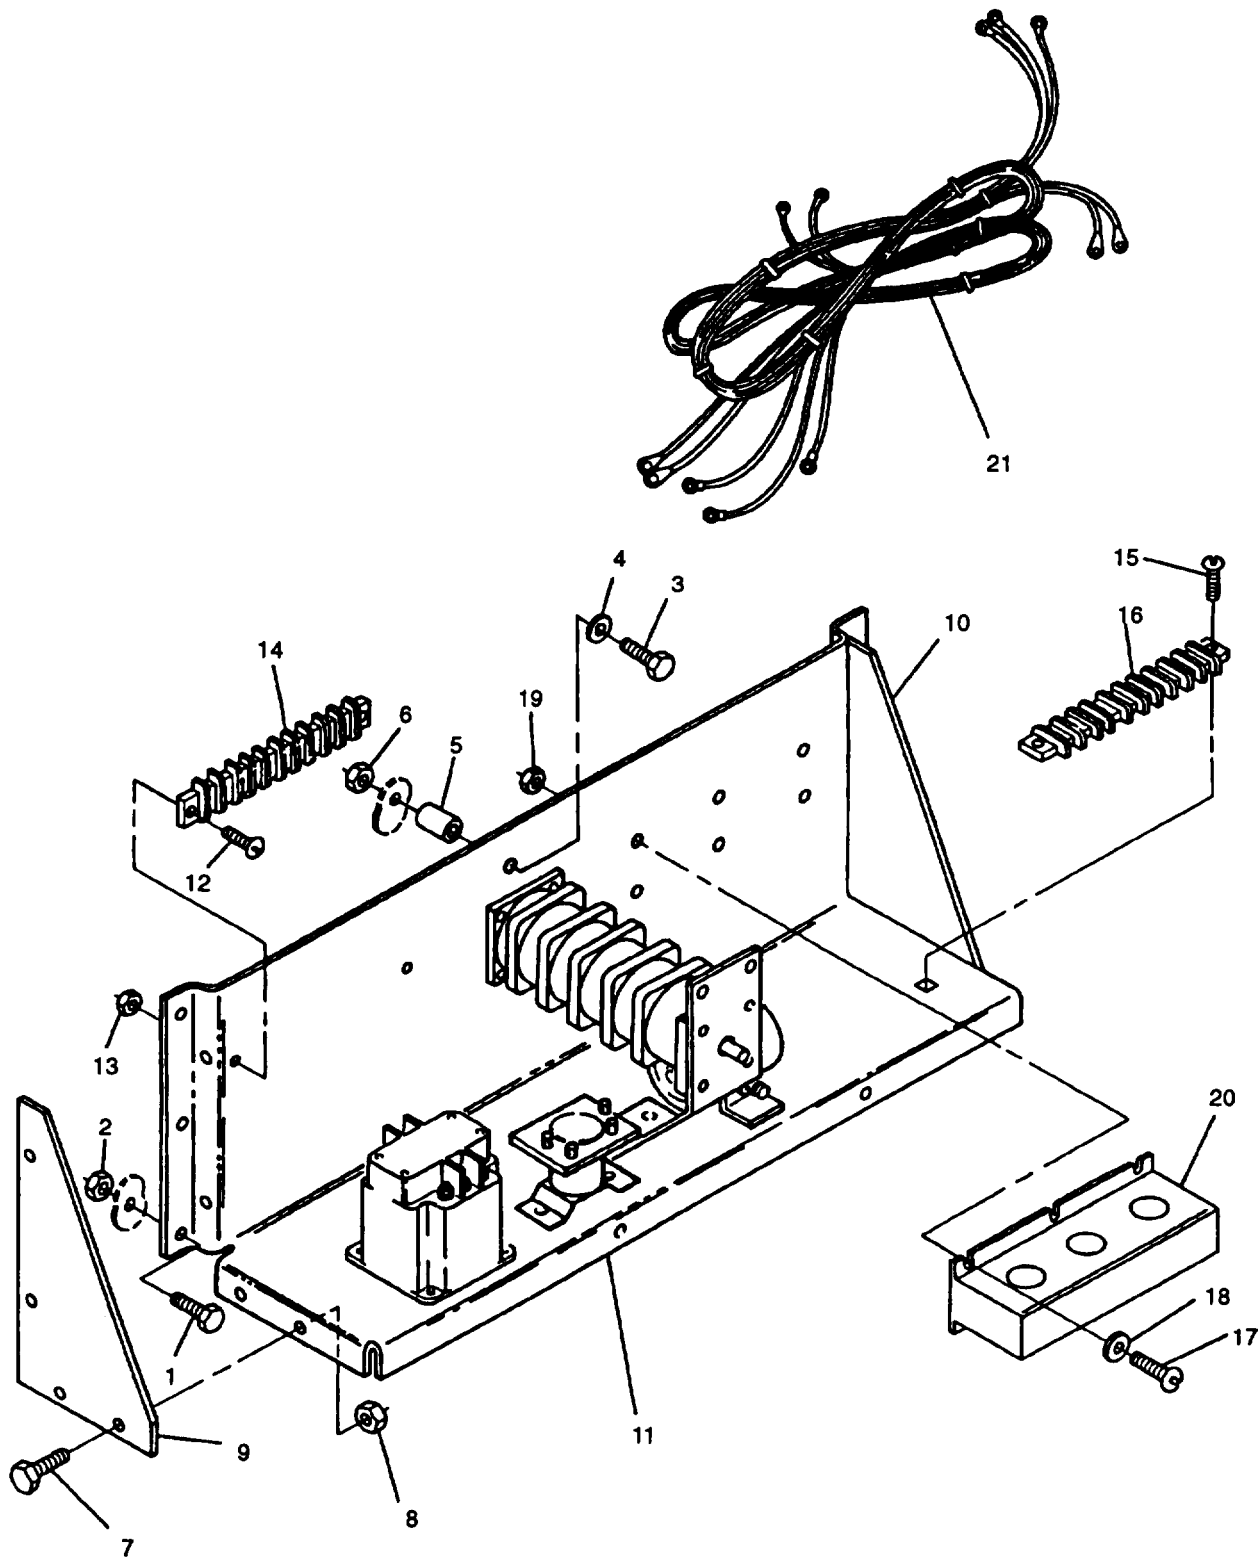

FIGURE 4-11. Output Box Assembly
- o. Tag and disconnect main generator leads from terminal board (16, FIGURE 4-11).
- p. Remove bolts (1) and (3), nuts (2) and (6), washer (4), spacer (5), and output box assembly from generator set. The assembly includes the output box tray (11), and side panels (9) and (10).
- q. Remove bolts (7), nuts (8), and side panels (9) and (10) from output box tray.
- a. Install side panels (9 and 10, FIGURE 4-11) on output box tray (11) with bolts (7) and nuts (8).
- b. Install output box assembly on generator set with bolts (1) and (3), washer (4), spacer (5), and nuts (2) and (6).
- c. Connect main generator electrical leads to terminal board (16) as tagged and remove tags.
- n. Tag and disconnect main generator leads from rear side of terminal board (16, FIGURE 4-11).
- a. Position output box/engine harness (21, FIGURE 4-11) in output box assembly and generator set.
- b. Install current transformer (20) with screws (17), washers (18), and nuts (19).
- c. Install terminal board (16) with screws (15).
- d. Tag and disconnect current transformer (20, FIGURE 4-11) electrical leads from secondary terminals.
- e. Tag and disconnect main power cables from front side of terminal board (16).
- Install current transformer (20, FIGURE 4-11) with screws (17), washers (18), and nuts (19).
- Wrap main power cables around current transformer (20) as noted on removal.
- Connect main power cables to front side of terminal board (16) and remove tags.
- Connect electrical leads to current transformer (20) secondary terminals and remove tags.